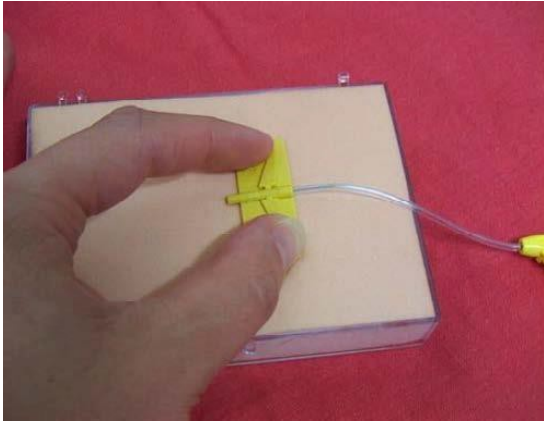
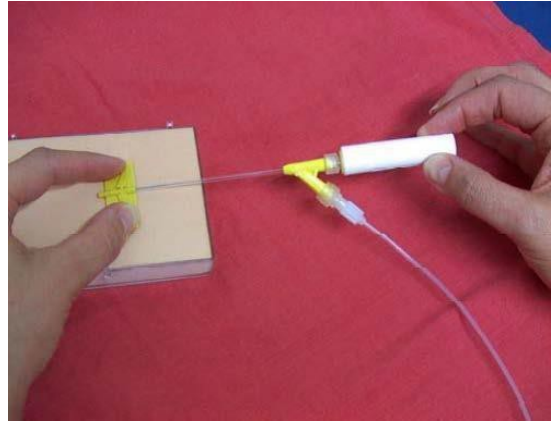
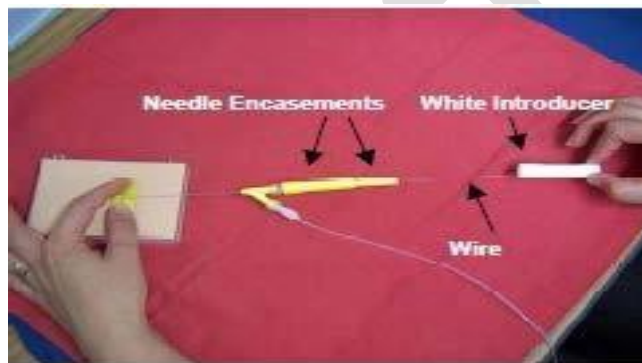

Fig 8.
Fig 9.
Fig 10.
7. Hold wings of cannula firmly (Fig 8.) and pull back on the introducer (Fig 9.) until you see four distinct parts (Fig 10.)